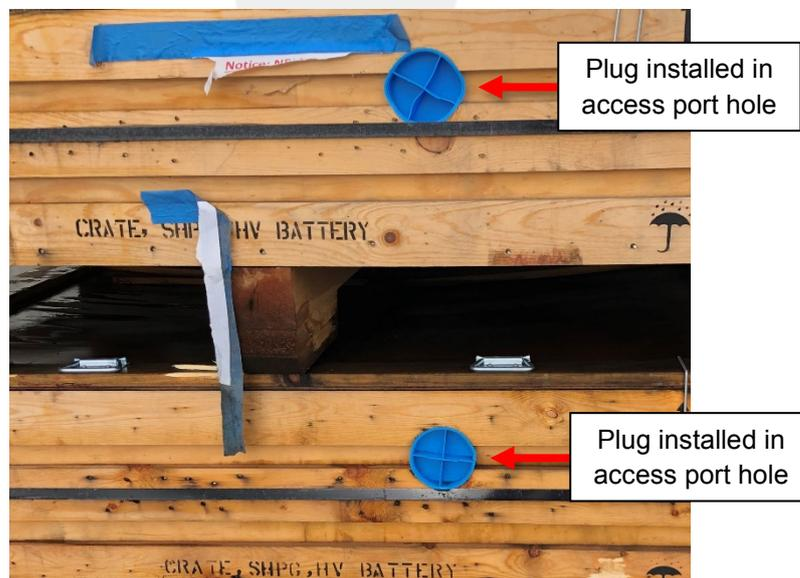

Figure 7
- Install the shipping crate access port plug (1593713-10-A) into the access port hole (Figure 7).